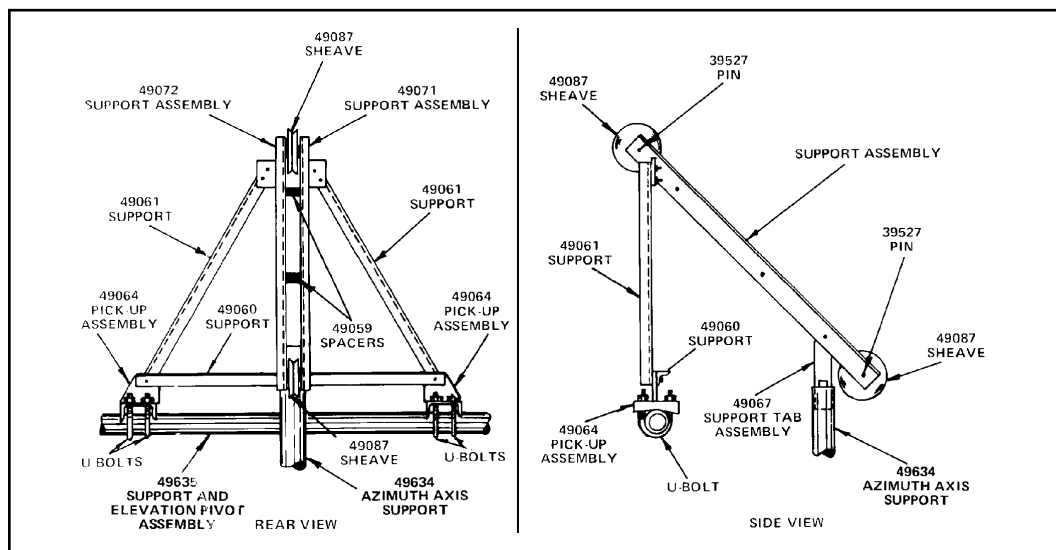

Figure 73
- Step 1** Install support tab assembly (P/N 49067) into top of azimuth axis support (P/N 49634) as shown in Figure 73.